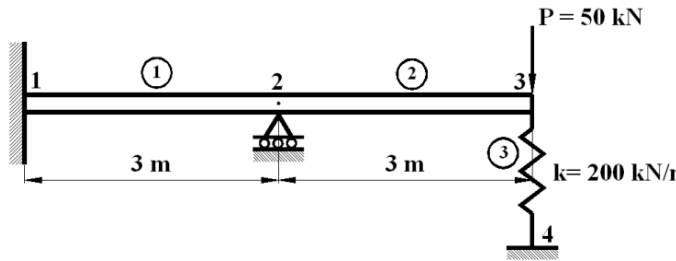

Figure P3.3
3. Determine the nodal displacements and rotations and the global and element forces for the beam shown in **Figure P3.3**. Take $E = 210 \text{ GPa}$ and $I = 2 \times 10^{-4} \text{ m}^4$.